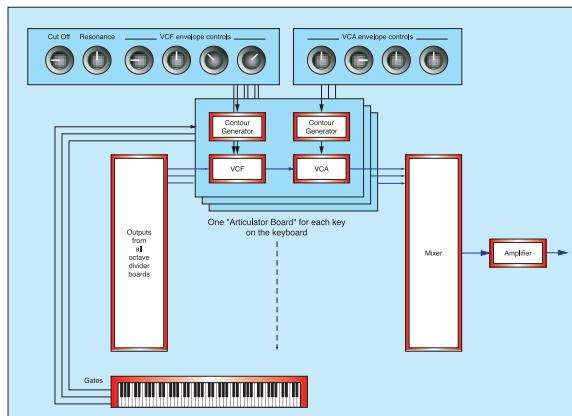

Figure 11: A true polysynth.
► articulate the *loudness* of each note correctly, there's still no way to make it articulate the individual *tone* (or brightness) of the notes. To do this, we must add a dedicated VCF and a second Contour Generator for each note, as shown in Figure 11 on page 84.
Let's finish this month's Synth Secrets by taking a brief look at two synthesizers that adopted this approach to polyphony. The first of these is the grandiosely titled Polymoog Synthesizer, a much maligned instrument that doesn't deserve the opprobrium that has been heaped upon it. Ignoring subjective views of its strengths (or lack thereof) the Polymoog has a unique architecture based on Figure 11. However, instead of providing user controls for the filters and amplifiers in each of the 'articulator' boards, it offers a handful of presets. This means that, when you press one of the buttons '1' to '8' in the centre of its control panel, you send predetermined CVs to the boards. Despite this minor limitation, the articulators still shape every note correctly. The Polymoog is a truly polyphonic synthesizer.
The important point here is that the PS3200 had all of its filters and amplifiers *before* its mixer, thus retaining true polyphony in all circumstances. Indeed, its architecture (notwithstanding a bucketful of extra facilities) is so similar to Figure 11 that we need no extra diagram to describe it.